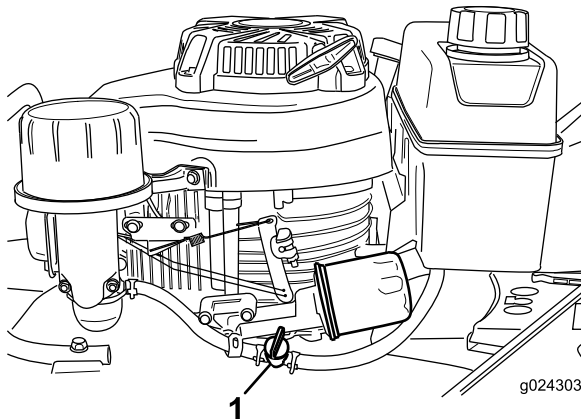

Figure 13
2. Open the fuel valve (Figure 13).
Note: Close the fuel valve (Figure 13) if you will not be starting the engine soon afterward.